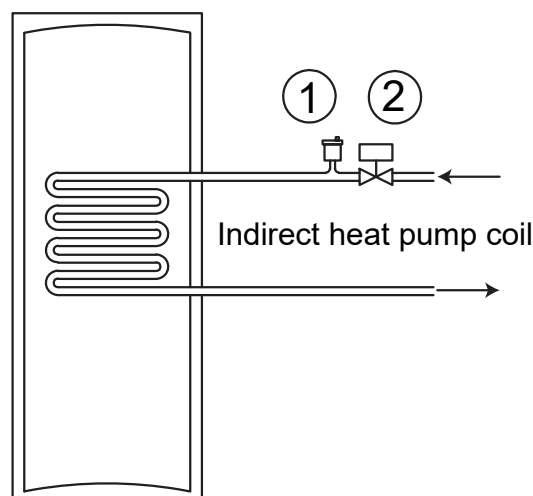

Figure 3-1: Primary circuit connections
Refer to item 2 in Figure 3-1. The 2-port valve should be wired in accordance with either Figure 5-3 or Figure 5-4 for a Grant Aeron Heat Pump (depending on the controller) to comply with current legislation. For other makes of heat pump please check with the heat pump manufacturer for connection details.
Table 3-1: Key to Figure 3-1